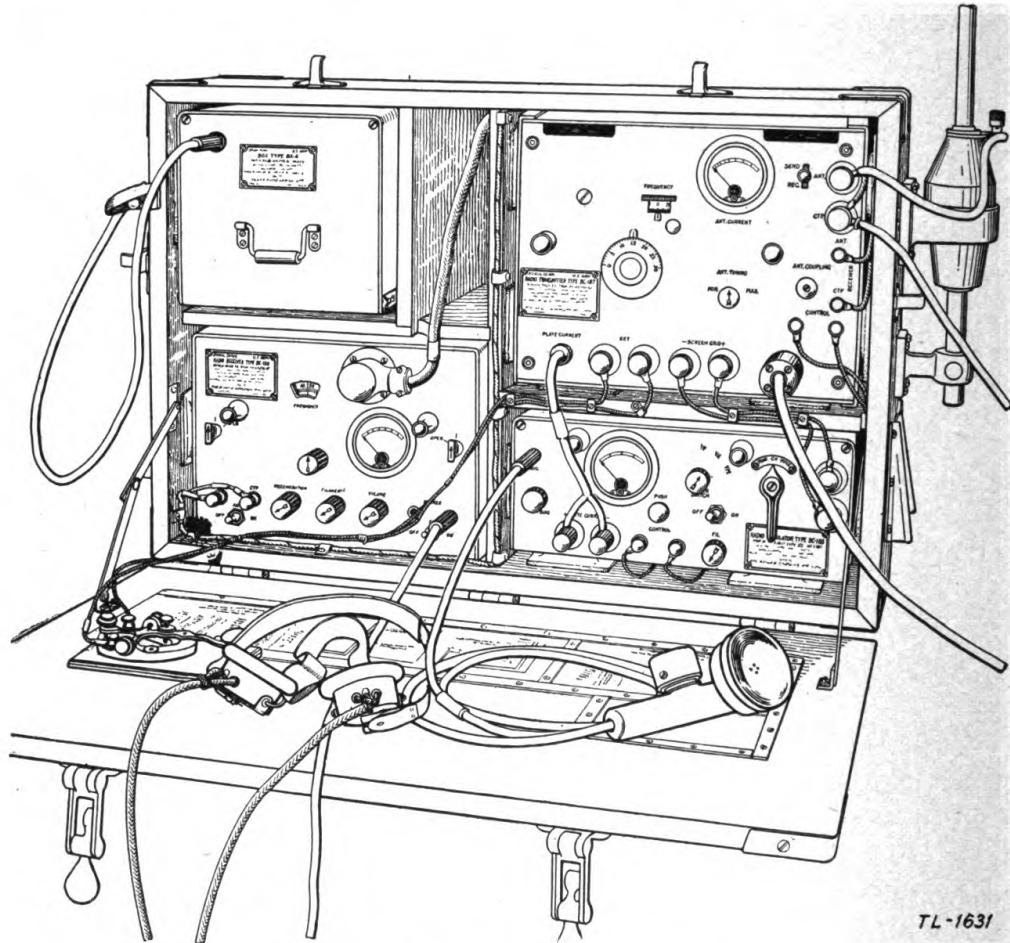

FIGURE 2.—Chest CH-38 open for operation.
*a. Chest CH-38 (or CH-28).*¹—An operating chest used for carrying (but does not include) the transmitter, modulator, receiver, battery box units, the headset, and key (fig. 2). Weight packed, 87 pounds.
(2) The calibration chart is to be used as an accurate guide only and not as absolute data. Keep in mind that weather conditions, inaccurate tuning of the transmitter, and that mechanical and electrical aging of all equipment tend to produce slight differences in the tuning point of the receiver. Signals should therefore be sought over a narrow range and not at a point.
(3) When finished receiving, snap the antenna and filament switches to the **OFF** position. If receiving and transmitting intermittently, the filament switch may be left on. Placing the antenna switch in the **OFF** position while transmitting prevents receiver blocking and permits monitoring the transmitted signals.
b. The modulator cord may be left connected but the plug should be slipped under the **KEY** wires of the transmitter. The equipment and operating chests appear as shown in figures 2 and 3. The components in the canvas roll are shown in figure 4. The chests should be latched, and the roll closed, taking care to have all items in their proper places. The units should now appear as shown in figure 5.